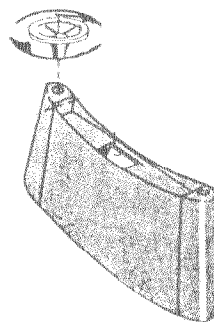

FIGURE 1
1. Attach the adjustable foot castings to legs as shown. (Figure 1)